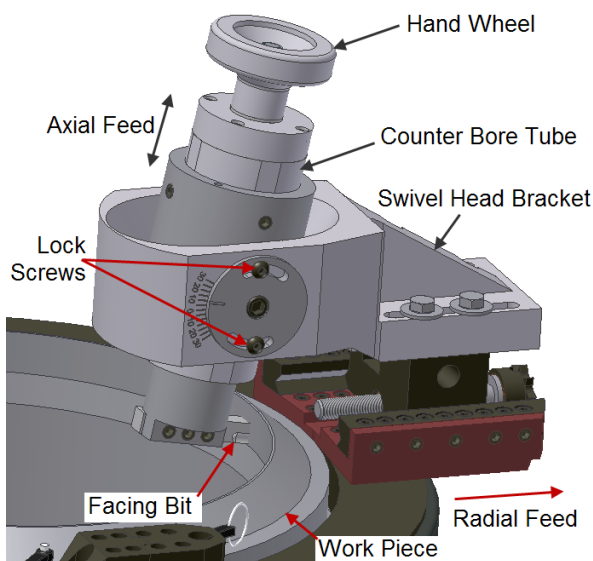

Figure 12
2. Insert the facing bit into the counter bore bar. The cutting side of the bit should face the setscrews in the bar (see Fig. 12). Loosen the lock down screws and swivel the counter bore to match the desired counter bore profile. Tighten the lock down screws. Adjust the counter bore tube height and lock into place with the setscrews on the flat of the counter bore tube. Use the star wheel wrench and the hand wheel to position to counter bore attachment at the edge of the inner wall of the work piece.